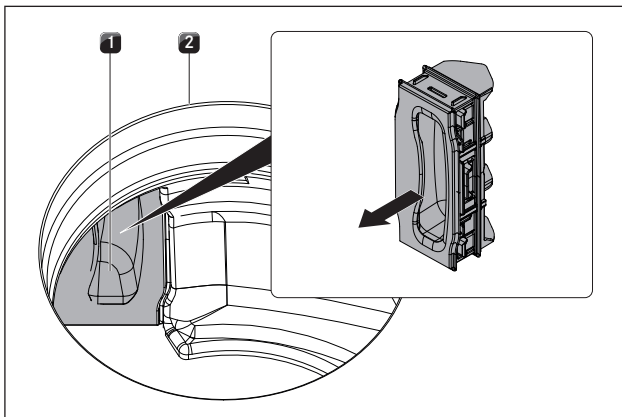

Fig. 8.5 Remove the filter replacement cover
- ▶ Inside the inlet opening pull the filter replacement cover out of the filter housing opening (To remove the filter replacement cover see Fig. 8.5).